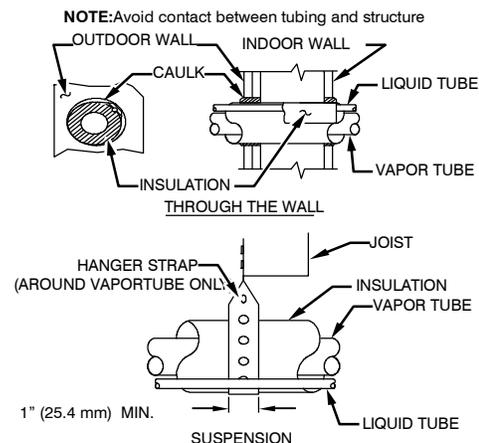

Fig. 1 - Piping Installation
5. When passing refrigerant tubes through the wall, seal opening with RTV or other pliable silicon-based caulk. (See Fig. 1.)
7. Do not suspend refrigerant tubing from joists and studs with a rigid wire or strap which comes in direct contact with tubing. (See Fig. 1.)
9. When necessary, use hanger straps which are 1 in. (25.4 mm) wide and conform to shape of tubing insulation. (See Fig. 1.)